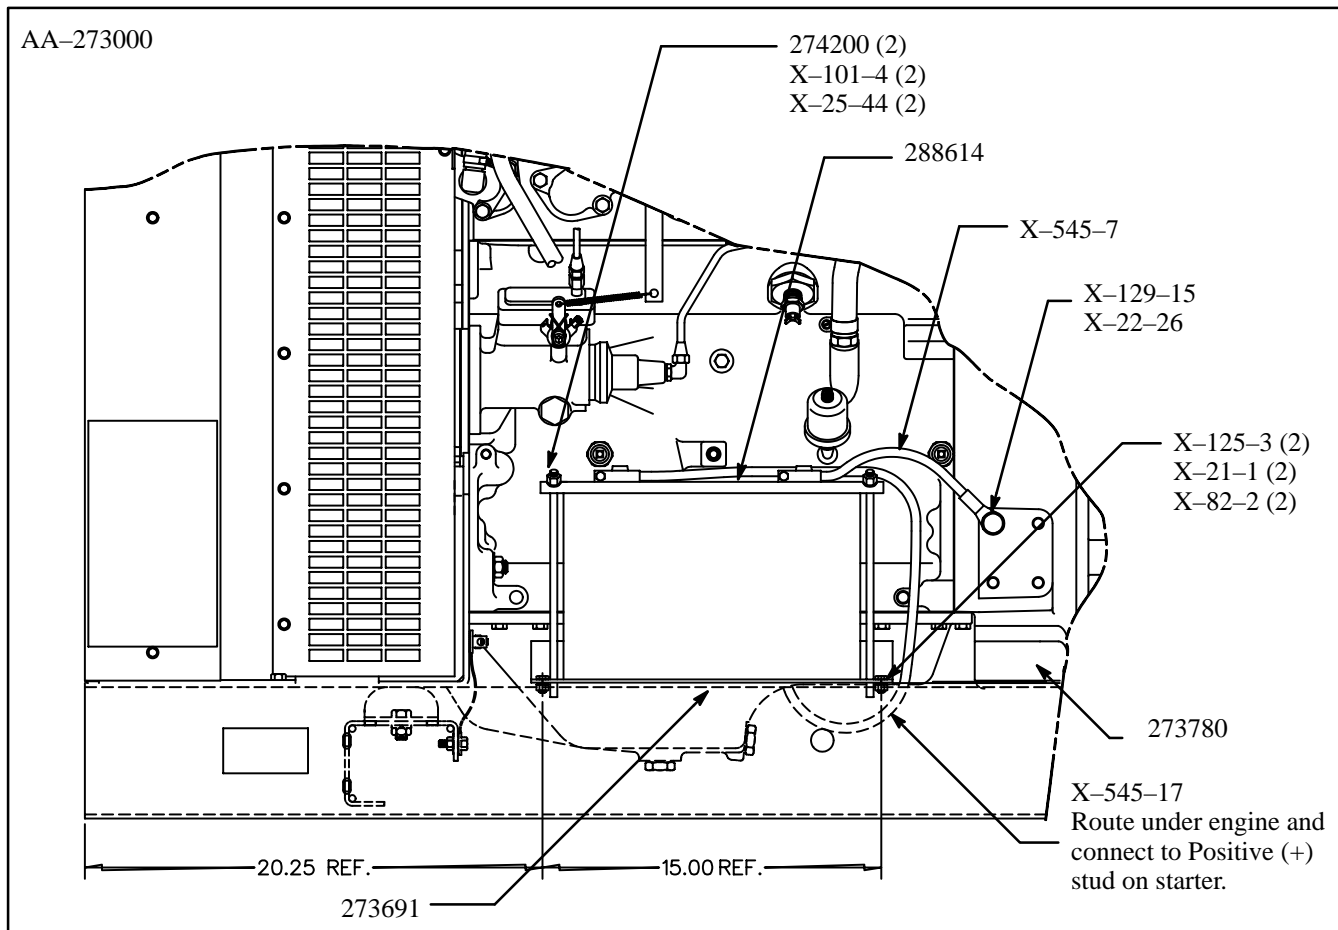

Figure 1.
3. Locate pre-drilled mounting holes in skid and mount battery rack (273691) using mounting hardware supplied (X-125-3, X-21-1, and X-82-2). See Figure 1.
7. Firmly affix warning decal (273780) at position shown in Figure 1.
9. With controller master switch in OFF position, attach black battery cable (X-545-7) to battery negative (-) terminal and to location shown in Figure 1 using H.C. screw and lock washer (X-129-15 and X-22-26) to secure.